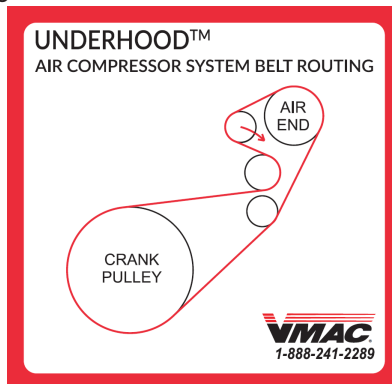

Figure 39 — Belt routing label
- Install the belt routing label in the engine compartment near the hood latch in a visible location (Figure 39).